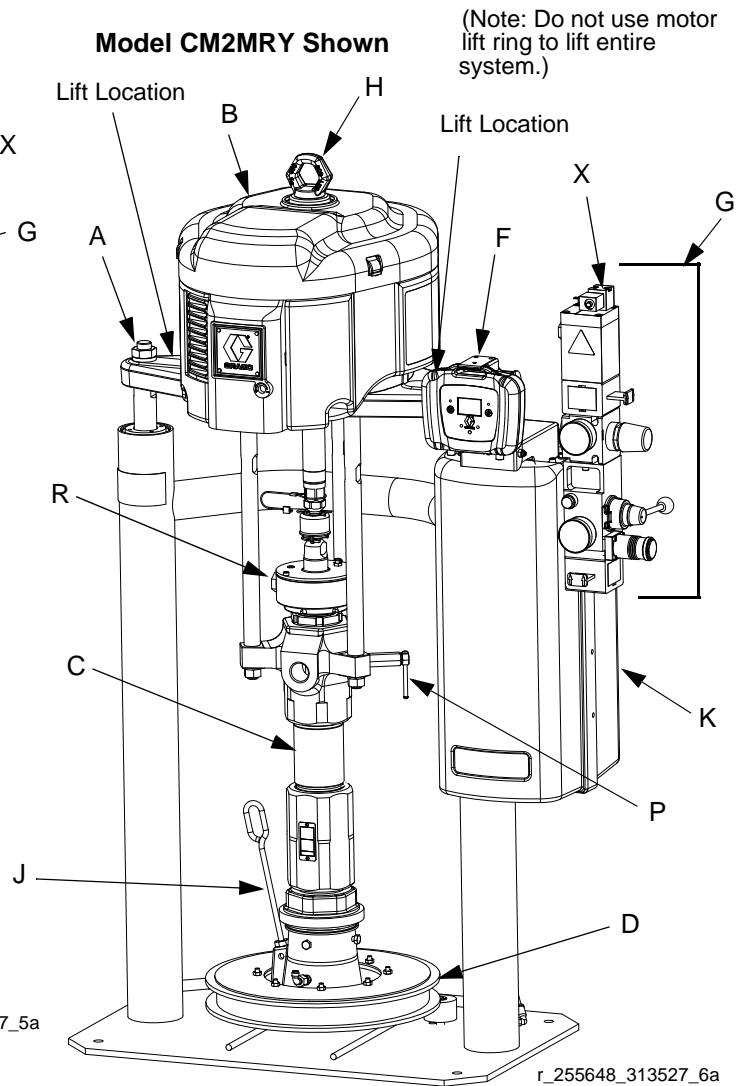

FIG. 2
FIG. 1, FIG. 2, and FIG. 6 are only guides for selecting and installing system components and accessories. Contact your Graco distributor for assistance in designing a system to suit your particular needs.
Always lift supply system at proper lift locations (see FIG. 1, FIG. 2, and FIG. 6). Do not lift in any other way.
3. Connect air line from an air source to the system air inlet. See FIG. 1 or FIG. 2. Refer to the pump performance curves in manual 312376 to determine your air supply flow requirements. Use a supply hose capable of meeting the required flow.